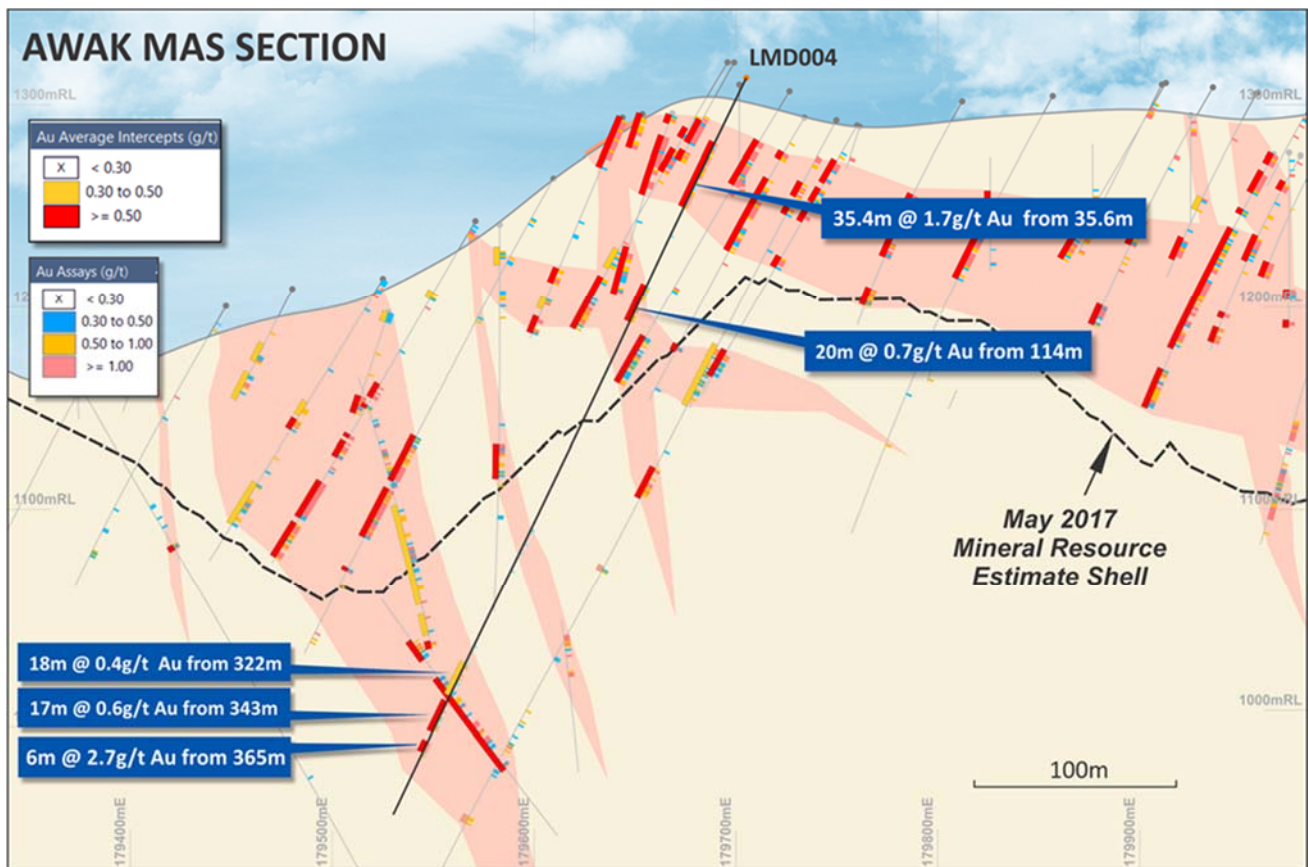

Figure 3: Cross-section of Awak Mas Deposit showing mineralised intersections >0.3 g/t Au in LMD004.
- In hole LMD004, drilled within the Lematik domain, significant intersections included (Figure 3); 35.4m at 1.7 g/t Au from 35.6m, 20m at 0.7 g/t Au from 114m, 17m at 0.6 g/t Au from 343m and 6m at 2.7 g/t Au from 365m.